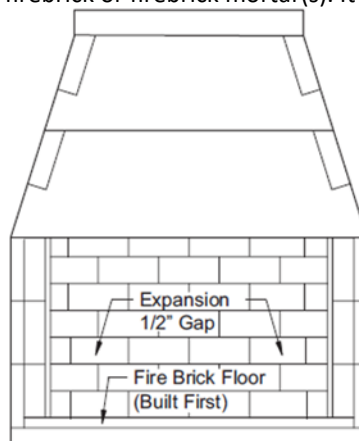

FIGURE 27
2. Next, apply firebrick to the back wall of the unit. The back wall firebrick covers the ½" expansion gap left at the brick floor along the back wall of the firebox. (Figure 27)